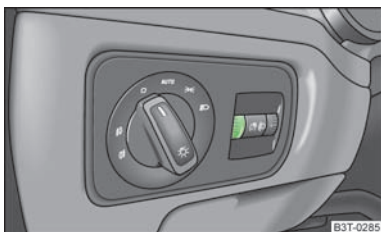

Fig. 35
- Turn the control dial » Fig. 35 to the desired intensity of the instrument lighting.